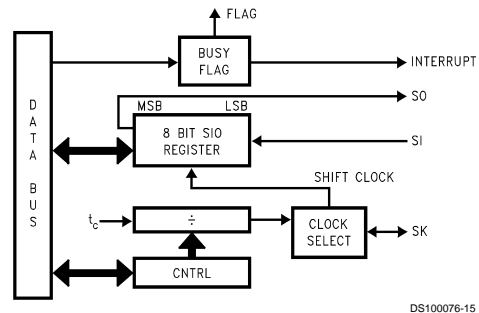

FIGURE 17. MICROWIRE/PLUS Block Diagram
MICROWIRE/PLUS is a serial synchronous communications interface. The MICROWIRE/PLUS capability enables the device to interface with any of National Semiconductor's MICROWIRE peripherals (i.e. A/D converters, display drivers, E2PROMs etc.) and with other microcontrollers which support the MICROWIRE interface. It consists of an 8-bit serial shift register (SIO) with serial data input (SI), serial data output (SO) and serial shift clock (SK). Figure 17 shows a block diagram of the MICROWIRE/PLUS logic.